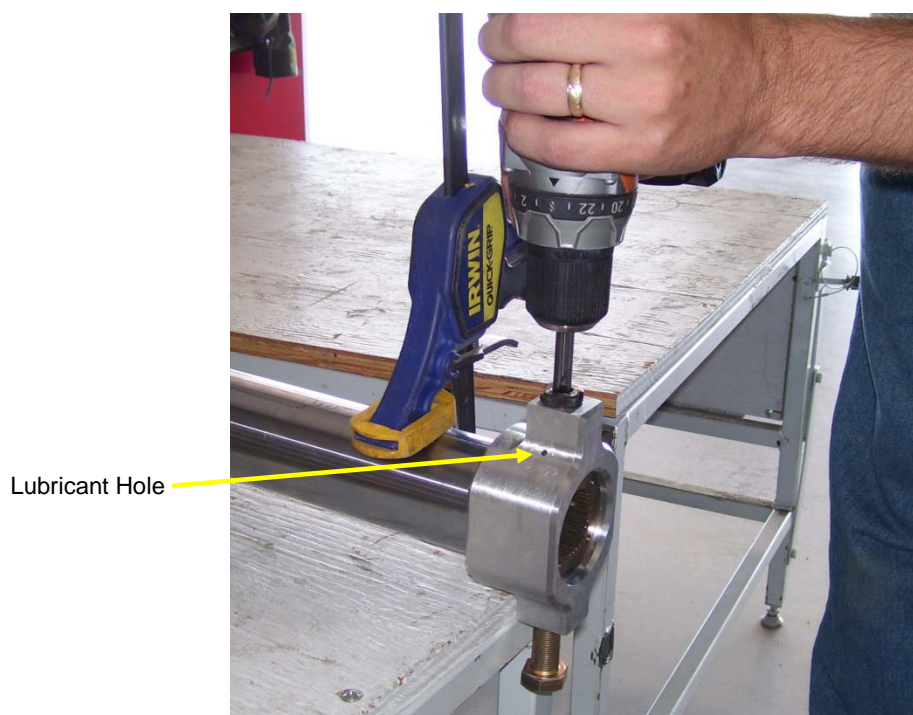

Figure 5-4: Rough Drill the U-sized Hole
6. Liberally apply machine cutting fluid to the lubricant hole during the drilling operation. Refer to **Figure 5-4**.
7. Using the highest speed setting, apply smooth continuous pressure of the drill bit on the chrome tube until the bit fully penetrates the tube wall and torque collar. Refer to **Figure 5-4**.